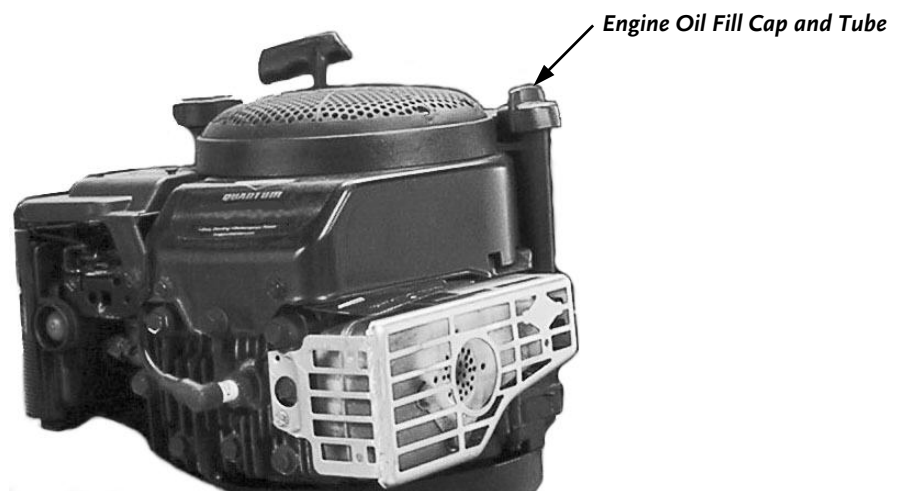

Figure 18
1. Remove the Oil Fill Cap and vacuum the oil from the engine through the Oil Fill Tube (**Figure 18**) using a Vacuum Pump Oil Drainer.